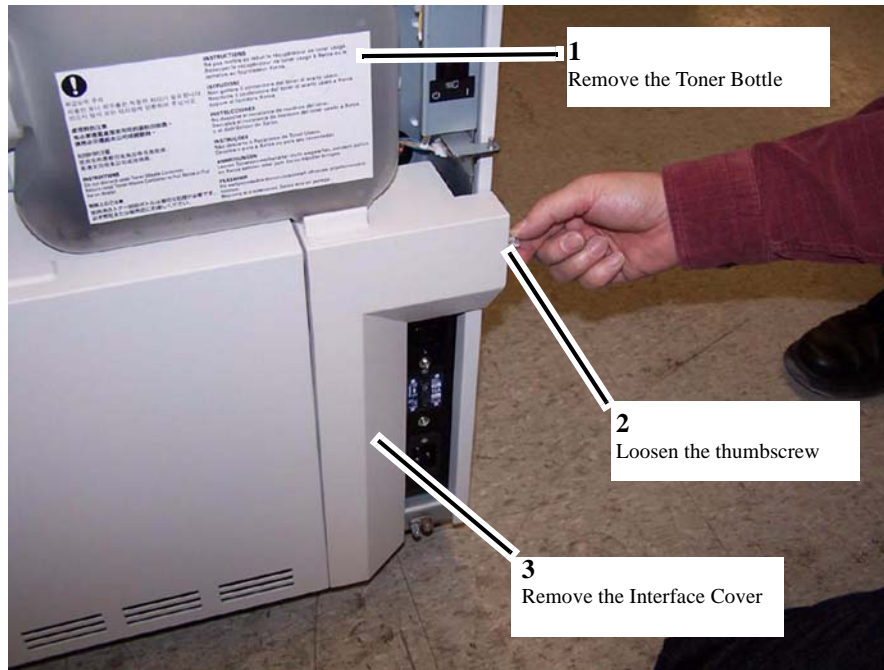

Figure 1 Removing the Toner Bottle and Interface Cover
3. Remove the Toner Bottle and the Interface Cover (Figure 1).